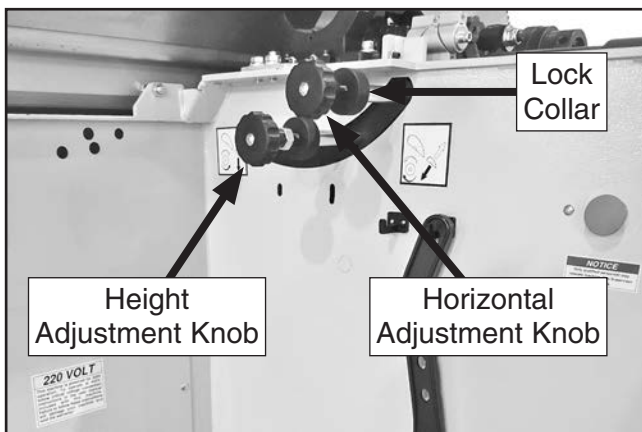

Figure 96. Scoring blade adjustment controls.
- a. Rotating knurled lock collar shown in **Figure 96** counterclockwise to loosen it.
- b. Rotating knurled lock collar behind height adjustment knob (see **Figure 96** on previous page) counterclockwise to loosen it.